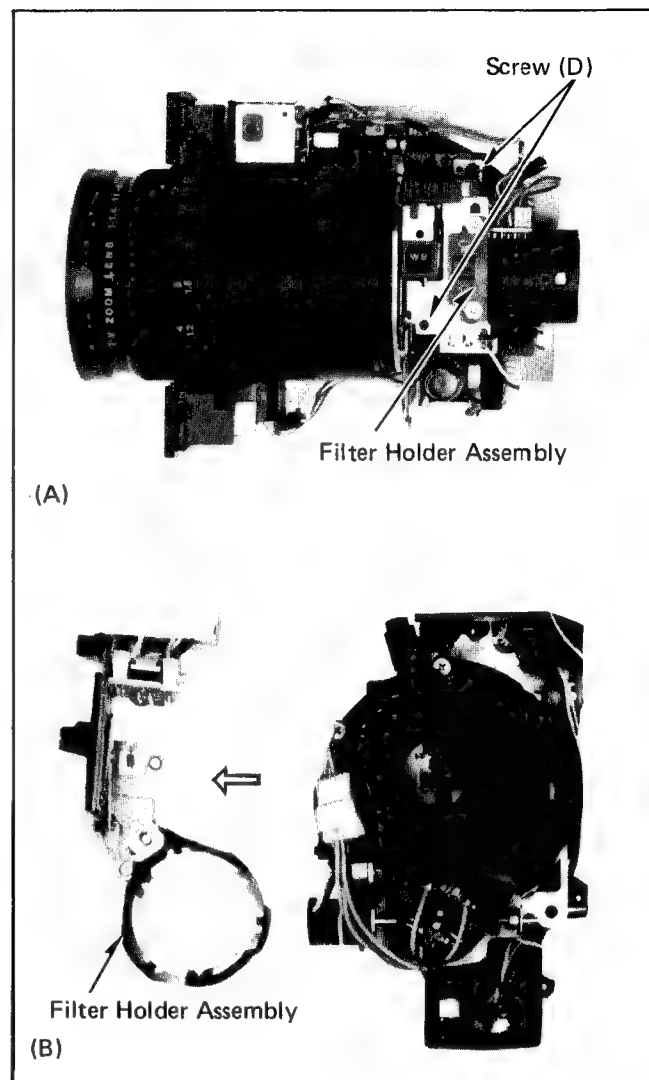

Fig. 20.
7-6. Unscrew 2 screws (D) and remove the filter holder assembly (see Fig. 20-A/B).